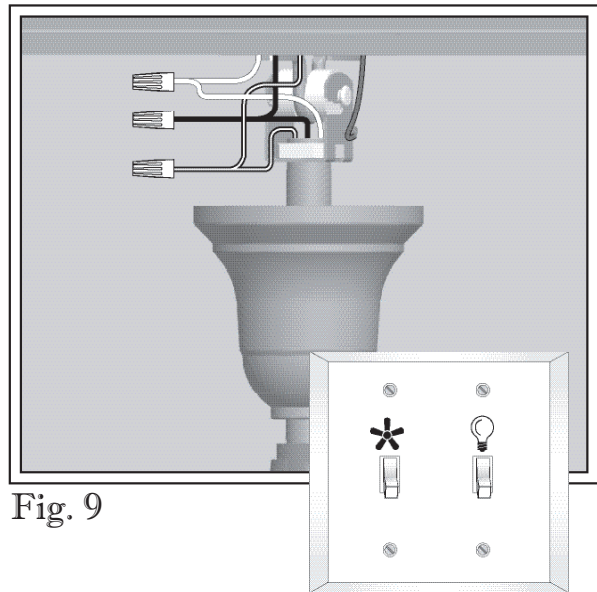

Fig. 9
**Dual Switch Wiring (see Fig. 9):**